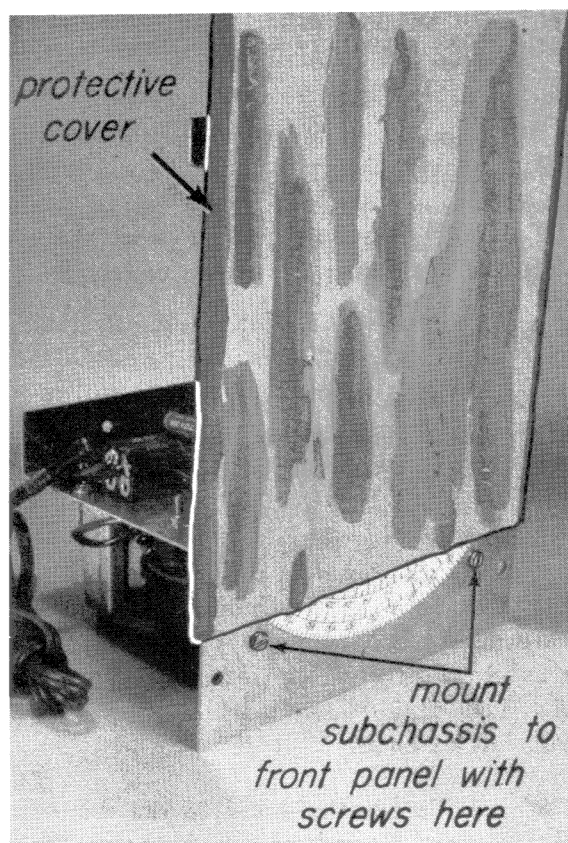

Fig. 21-12
Step 2. Slide the protective wrapper down the front panel to uncover the two holes, as shown in Fig. 21-12. Be careful not to scratch the panel while it is uncovered. Mount the subchassis on the front panel with two 6-32 binding head screws and hex nuts, as shown in the figure. Do not